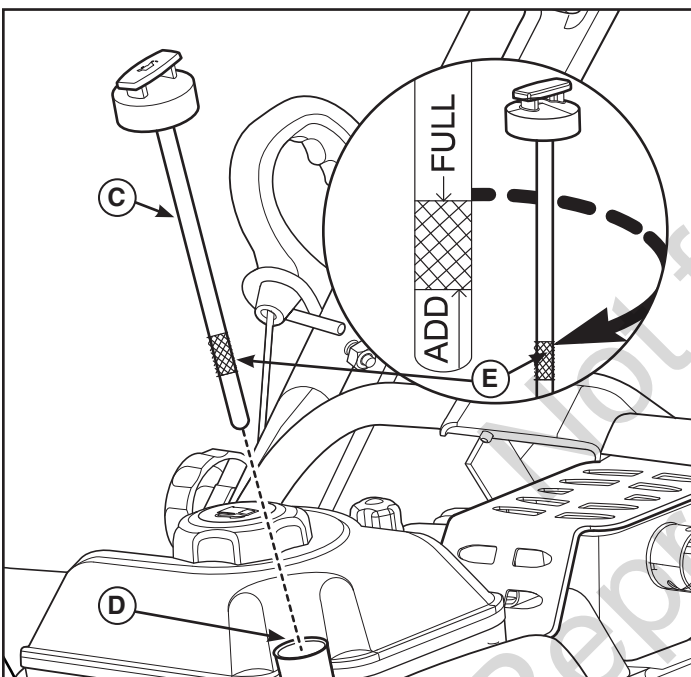

Figure 13
2. Tilt the unit back slightly, then remove the oil drain cap (B, Figure 13). Drain the oil into an approved receptacle.